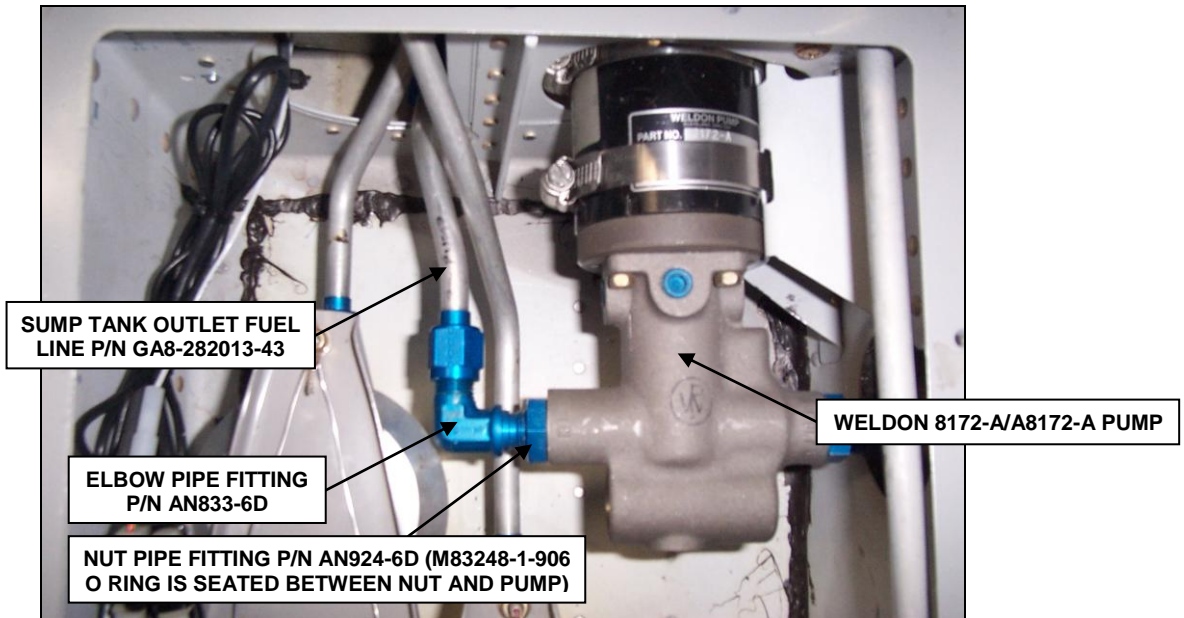

Figure 8: Connection of sump tank outlet fuel line to the Weldon pump.
25. Connect the new sump tank outlet fuel line (P/N GA8-282013-43) to the inlet of the Weldon pump using AN924-6D and AN833-6D fittings with an M83248-1-906 O ring (lubricated with a suitable lubricant, ie: Dow Corning 55 O-ring lubricant) in accordance with figure 8.